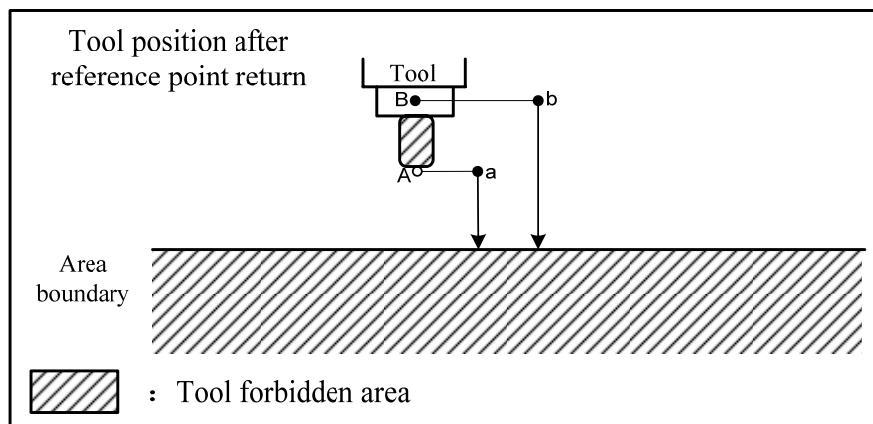

Fig. 2-6-4 To setup forbidden area
3. Detection point in the forbidden area: prior to the programming for forbidden area, please confirm the detection point (the top of the tool nose or tool collet). As is shown in Fig.2-6-4, if the detection point is A(tool nose), the distance "a" should be used as the data for storage detection; if the detection point is B(tool collet), the distance "b" should be used as the data for storage detection. When the detection point is A (tool nose), and the tool length varies with the tool, the forbidden area should be set up according to the longest tool, as such may ensure the safe running.